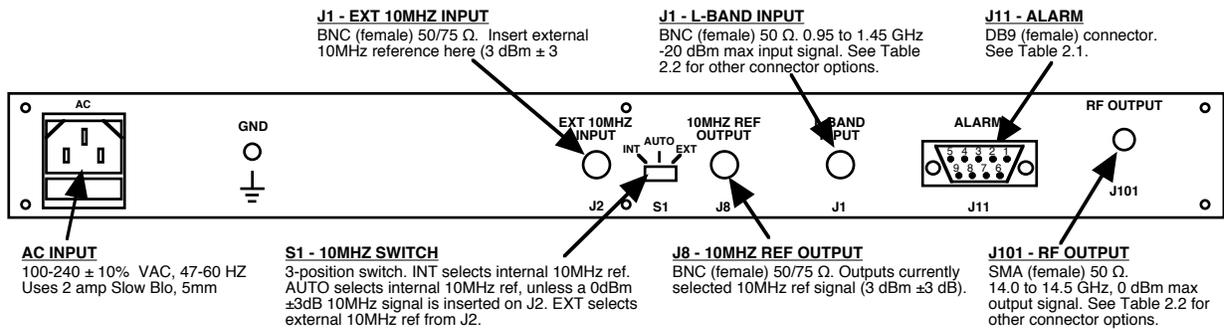

FIGURE 2.1 2115-140 Rear Panel I/O's
2.2 Rear Panel Input/Output Signals - Figure 2.1 shows the input and output connectors on the rear panel.
1. Connect a -40 dBm to -20 dBm signal to L-BAND INPUT, J1 (Figure 2.1).
5. Select either INT (for internal 10MHz ref), AUTO (for internal 10MHz ref UNLESS a external 10MHz, 3 dBm signal is connected to J2), or EXT (for external 10MHz, 3 dBm ref that is inserted at J2) on rear panel switch S1 (Figure 2.1).
7. Check that a 10MHz, 3 dBm \pm 3 dB signal is present at the 10MHZ REF OUTPUT (J8) (Figure 2.1).